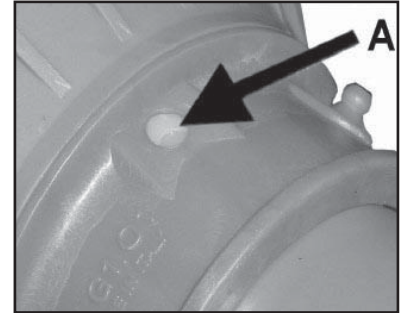
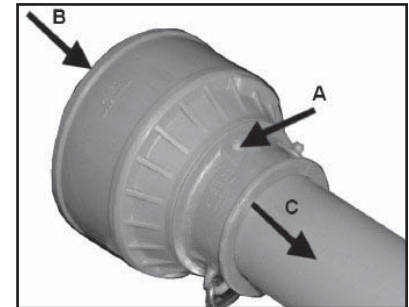

Figure 1
Figure 2
1. There are 3 white tabs around the cover as shown in (Ref. A, Figure 1). Take a screwdriver and press against the tabs one at a time with downward angular pressure toward the end of shaft marked (Ref. B, Figure 2). As you are pressing tab grasp cover at point marked (Ref. B, Figure 2) and apply pressure against cover in the direction of arrow, do this for each tab. (Sometimes the other tabs may relock, if they do you must repeat unlock procedure.) You will feel it click when the tab releases, after all 3 tabs are released you can slide the cover down the shaft in direction of (Ref. C, Figure 2).